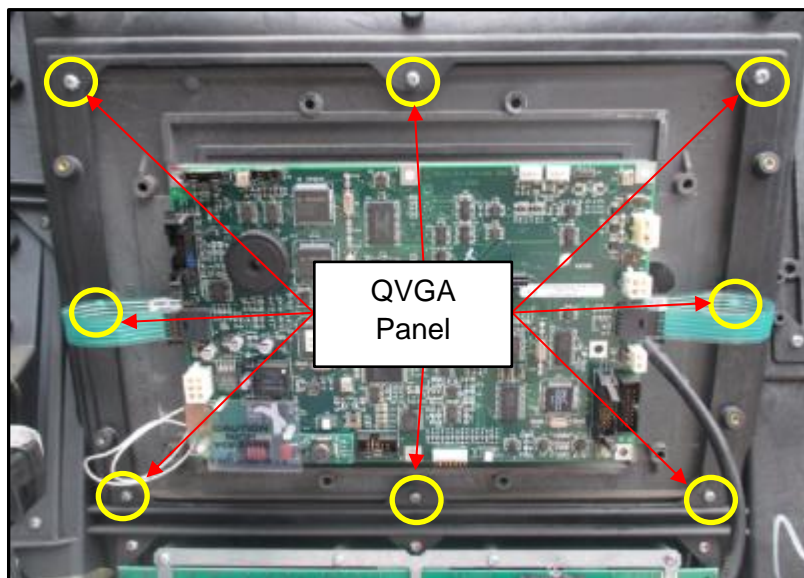

Fig 13.1 – Location of QVGA Panel screws
- 1) Remove and discard the eight #8 screws fastening the QVGA Panel to the dispenser door and remove the panel from the dispenser door. The Panel can be discarded. It will not be re-installed. (Fig 13.1, 13.2)